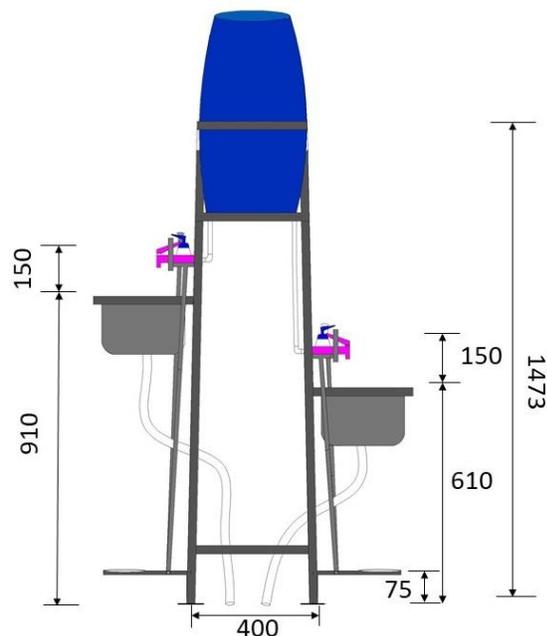

Figure 4: Dual-user inclusive small pedal operated handwashing station
- Make the same frame as mention for the Option-1 model and add additional provision to attach another sink at the opposite side of the frame. This sink can be attached at lower height (610 mm) to ensure accessibility to children and people with disability. (Figure 4)